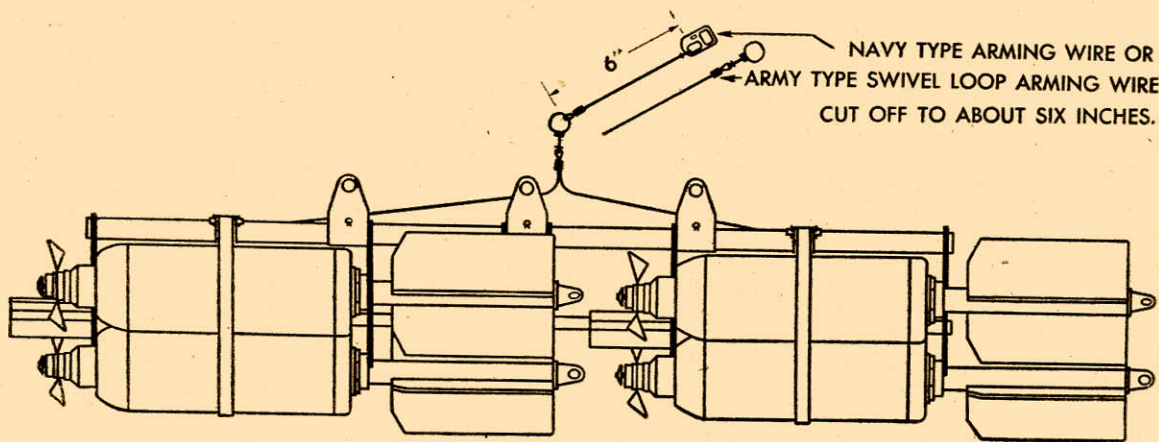

Figure 129.—Sketch of Arming Wire Extension
2. Check to see that arming-wire swivel loop will reach the arming mechanism of the rack or shackle; if this loop will not reach, the arming wire may be removed from the cluster and a Navy-type wire of adequate length installed; clip off the excess lengths of the Navy wire so that about two inches protrude beyond each buckle clamp. Another procedure which may be used is to make up an arming-wire extension (Fig. 129) consisting of a regular arming wire cut down to about six inches long with either a swivel loop or a Navy-type plate at one end. The cut end of the extension, i.e., the end opposite the swivel loop or plate, is passed through the swivel loop of the arming wire furnished with the cluster, bent back, and wrapped around about two turns. (See Fig. 129.) For the reasons previously enumerated, no Navy-type arming-wire plates are to be used with Shackles AN-B10.